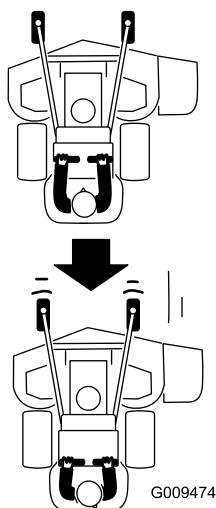

Figure 20
2. Slowly pull the motion control levers rearward (Figure 20).